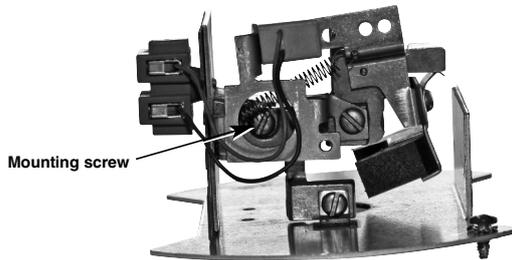

Figure 4
3. Loosen screw in split mounting clamp until mechanism slides freely on enclosing tube, refer to Figure 4.
3. Loosen screw in split mounting clamp until mechanism turns freely on enclosing tube, refer to Figure 4 on page 3.